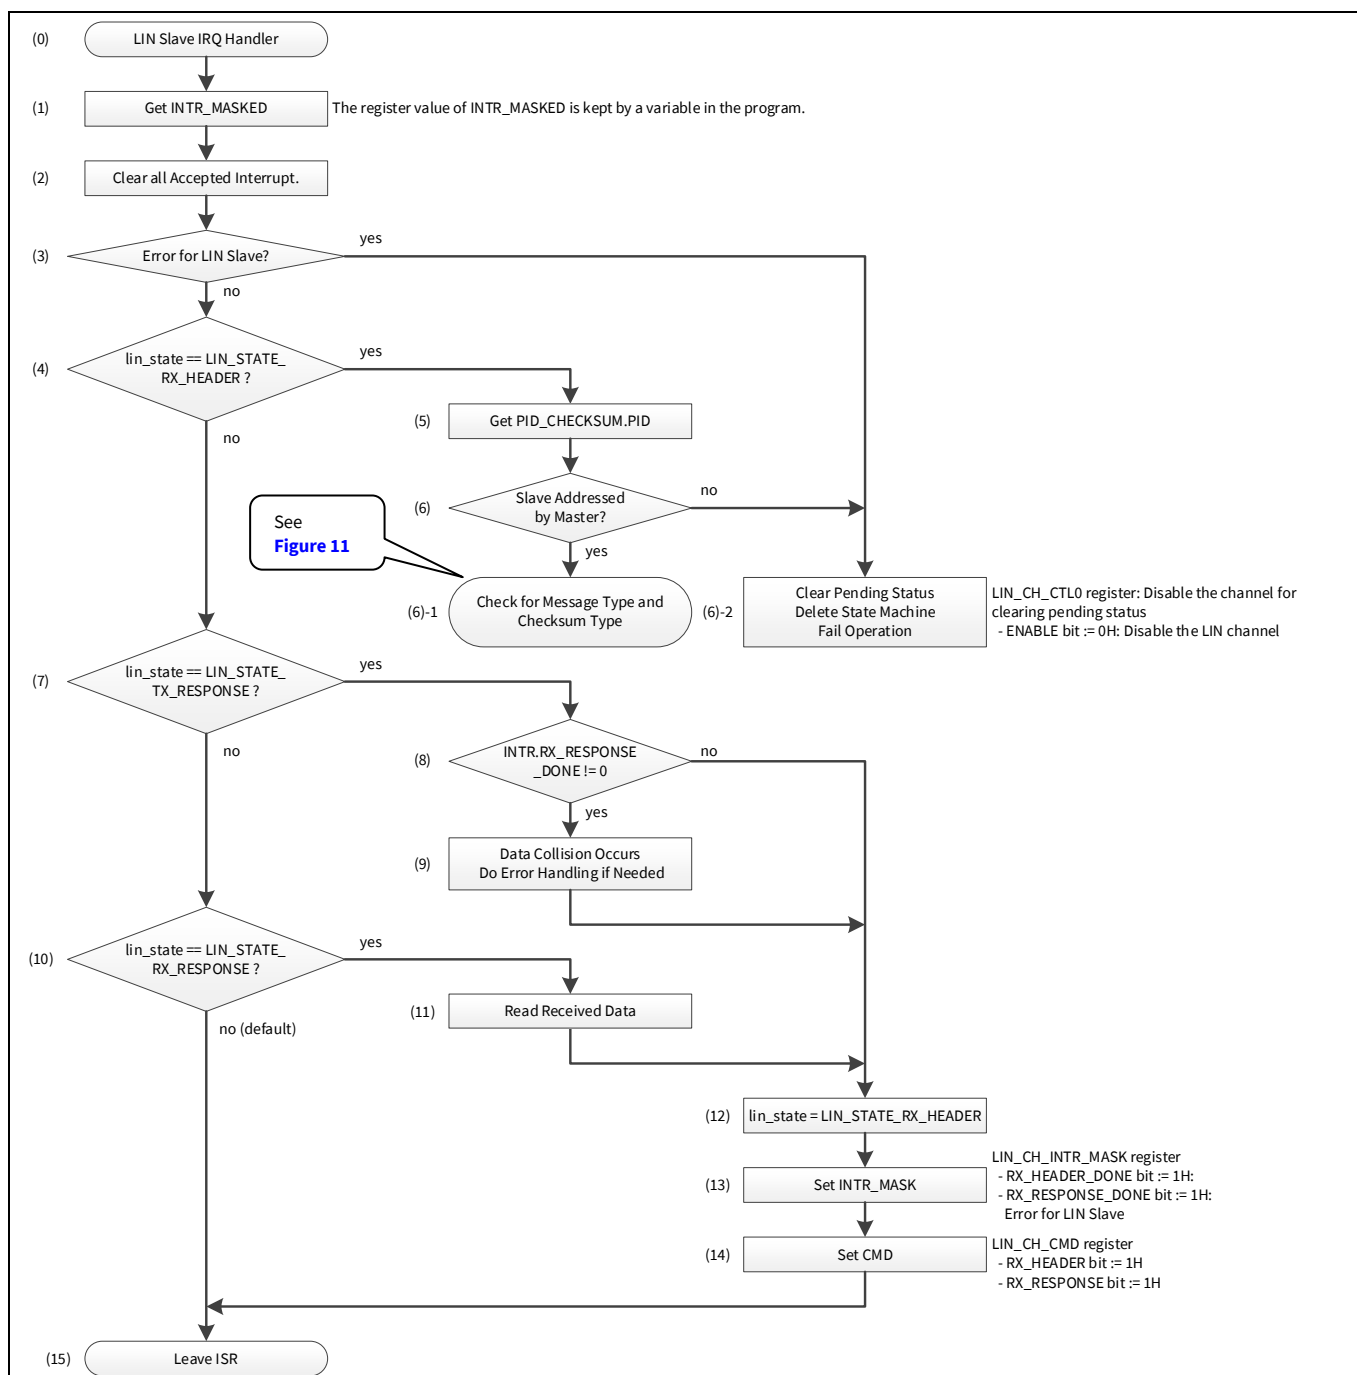
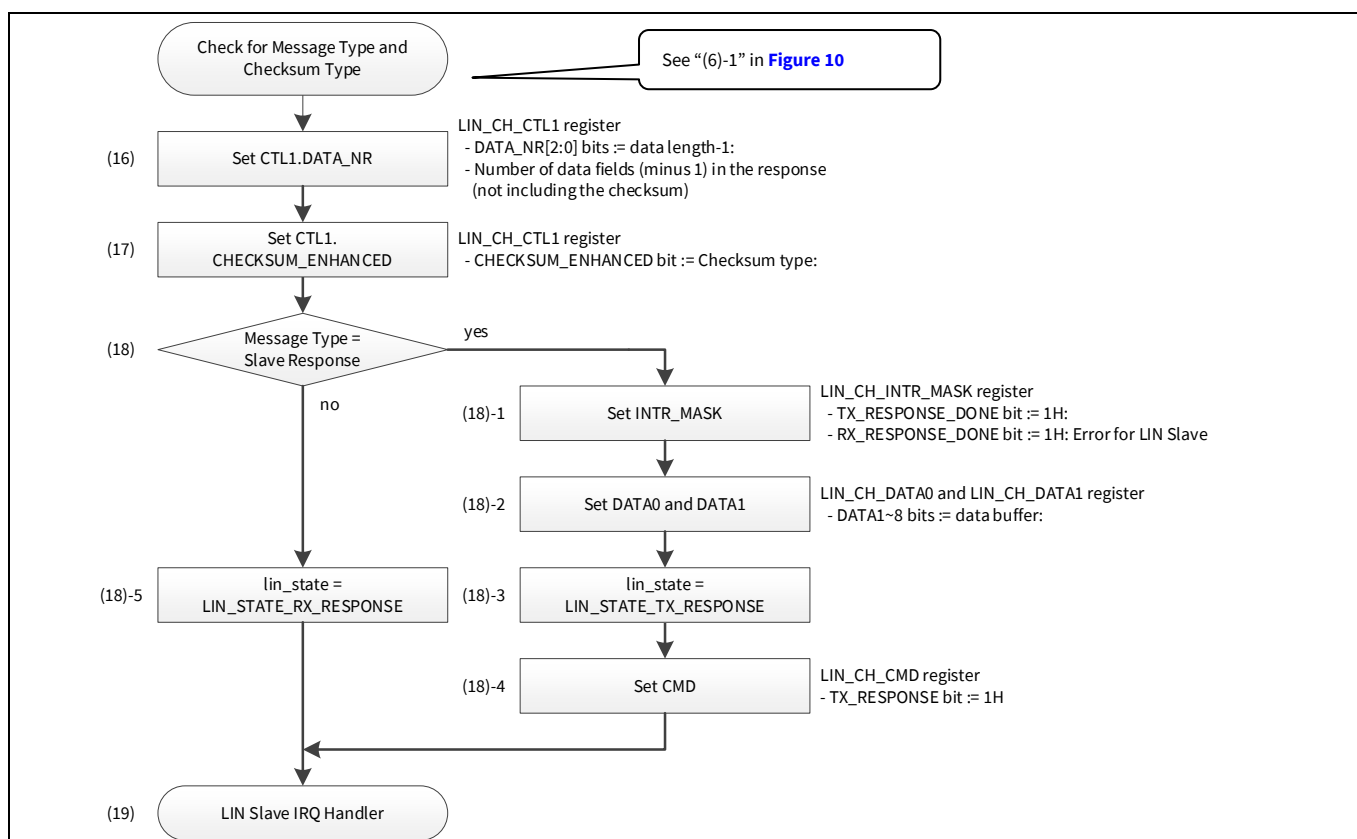

Figure 10 Example of LIN Slave IRQ Handler
Figure 11 Example of LIN Slave Checking for Message Type and Checksum Type
Figure 10 shows an example of how the LIN Slave IRQ handler works. This flow is used in **Code Listing 18**.
- (6)-1 Go to **(0)** in **Figure 11**.
- (15) Return from LIN slave IRQ handler and wait for the occurrence of the configured LIN interrupt as **Table 2**.
Figure 11 shows how the message type and checksum type operations are performed. This flow is used in the case of jumping from (6) -1 in **Figure 10** and in **Code Listing 20**.